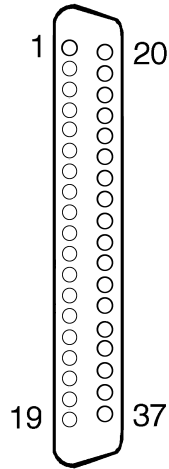

Figure I-2 37 Pin Connector
2. Use Table I-2, Table I-3 and Figure I-2 to understand the signal pin out pattern and cabling.